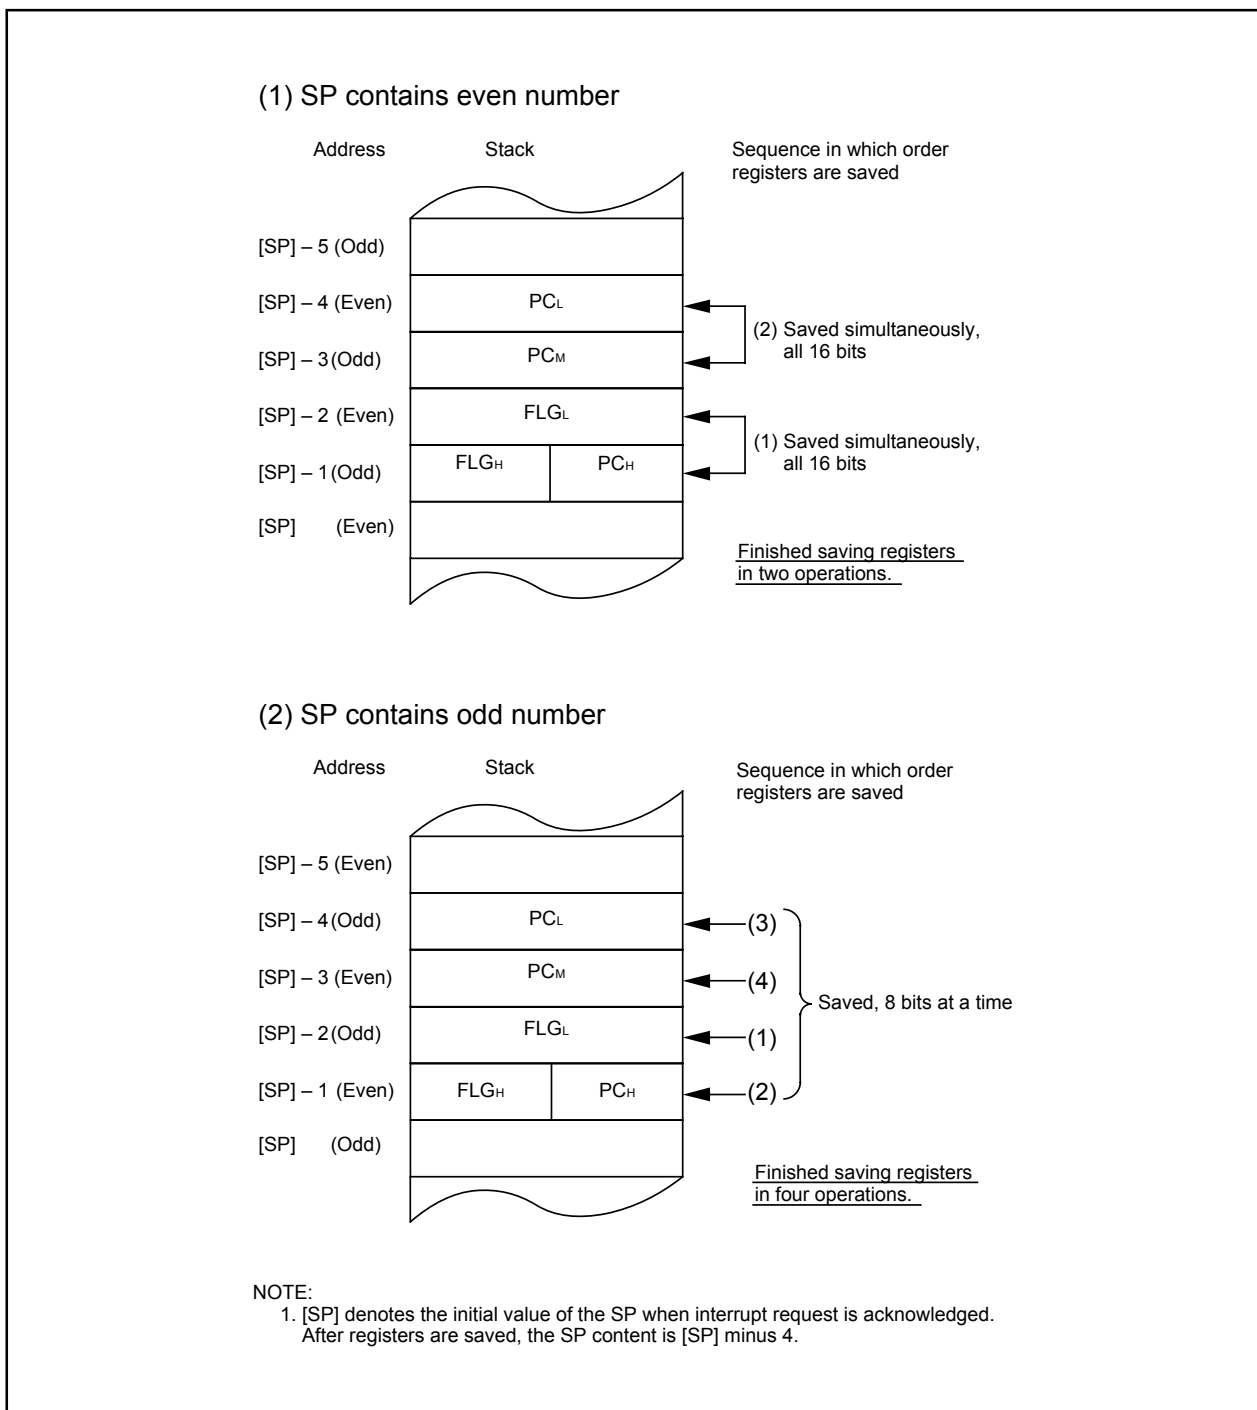

**Figure 9.7 Stack Status Before and After Acceptance of Interrupt Request**
**Figure 9.7** shows the stack status before and after an interrupt request is accepted.